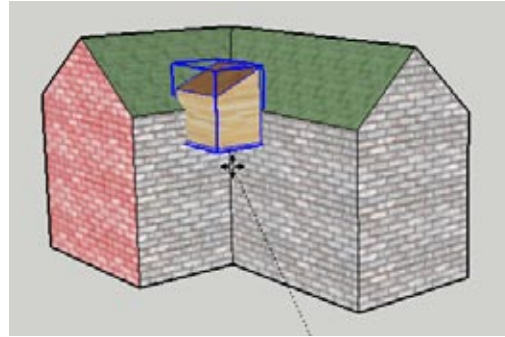

Figure 6-4
3. Select the shed (which you can now do with one click) and move it. Because the shed originally shared a wall with the house, it is still “glued” to that wall even after being made into a group. So when you move the shed, it cannot leave the plane of the wall (Figure 6-4).